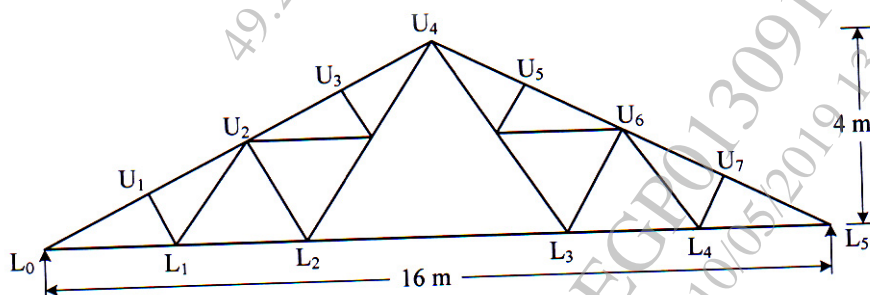

Fig. 10
- b)** A truss shown in Fig.10 b is used for an industrial building situated at Allahabad covered with AC sheets. Determine panel point dead, live and wind load with following data. [14]